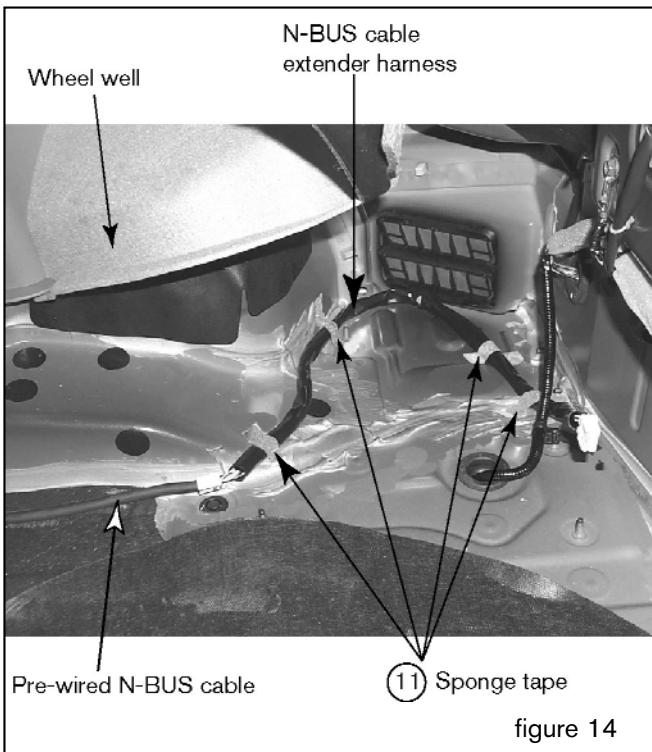

figure 14
2. Plug the N-BUS cable extender harness plug into the vehicle N-BUS cable. figure 14
3. Route the N-BUS cable extender harness around the wheel well away from exposed bolts and secure with sponge tape as shown in figure 14.
4. Clean the back of the (1) tuner and the rear trunk panel with 50/50 alcohol/water solution where the tuner is to be attached.
5. Cut one (1) (5) spacer 100mmx120mm (4" x 4.8")